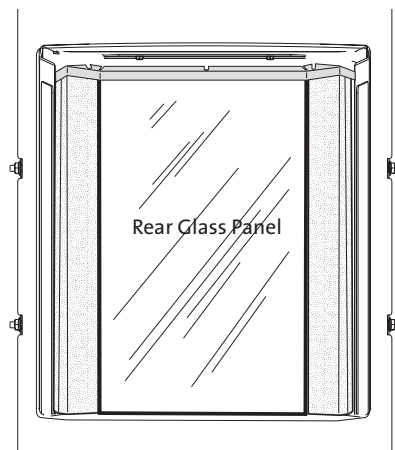

Figure 26. Install Rear Glass Panel.
- Orient the rear panel, smooth side out, textured side in.** Tilt the panel to engage its upper edge behind the retainer bracket. Seat the panel all the way back and centered against the back wall. See fig. 26.